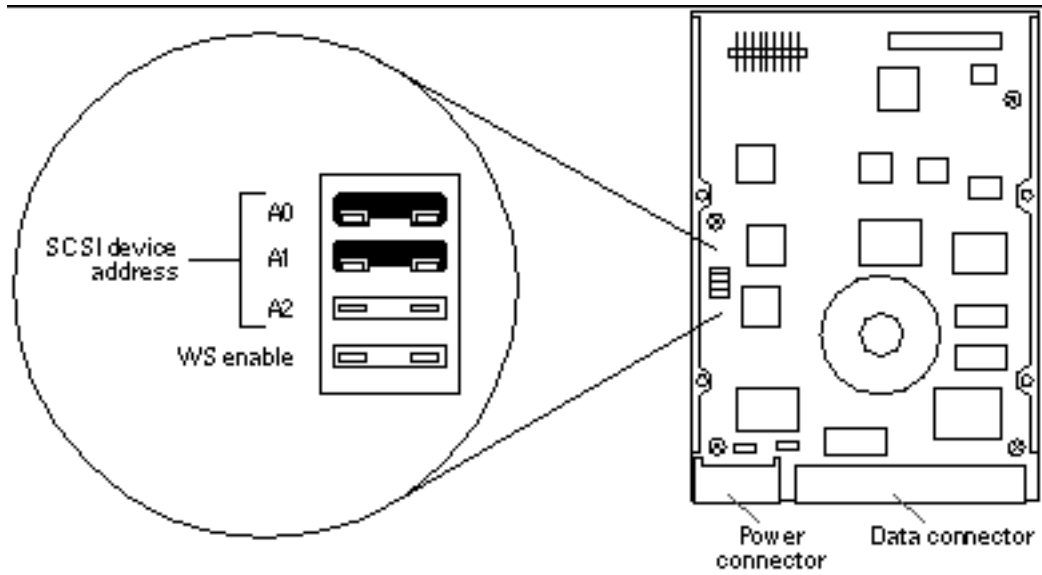
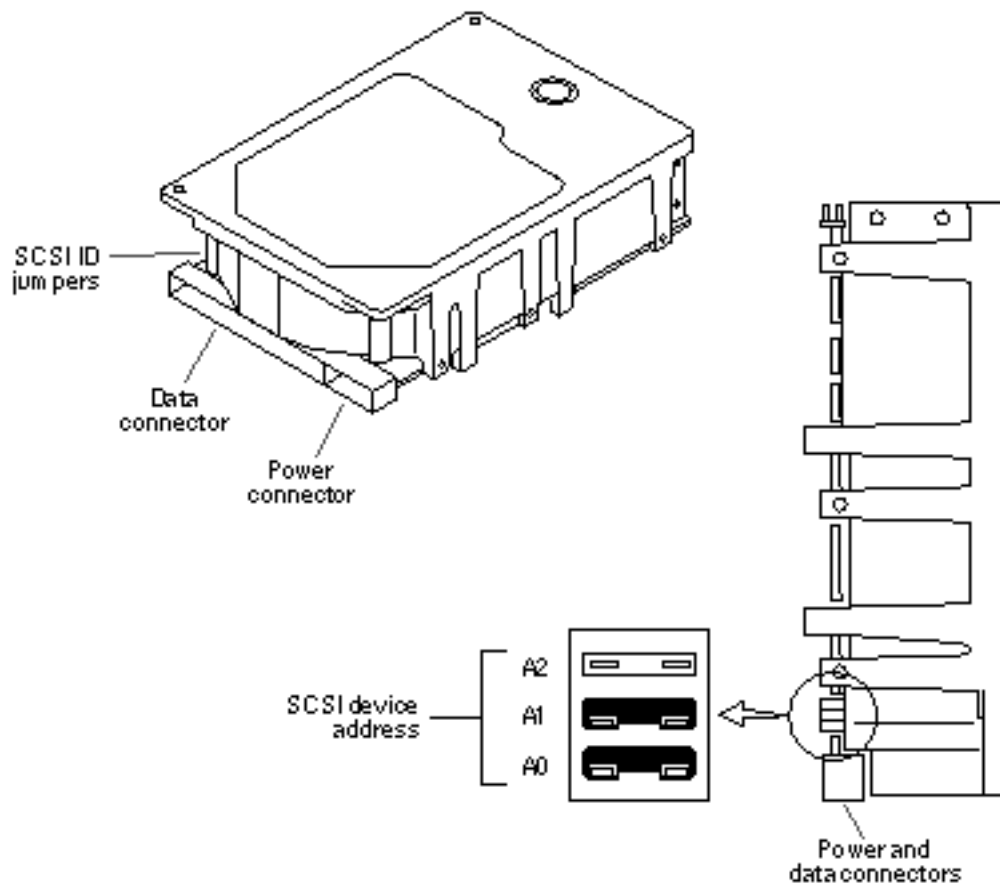

Figure 9-2 Jumper Settings for 207-Mbyte Drive With Jumpers on the Left-Hand Side
Figure 9-7 Jumper Settings for 1.0-Gbyte Drive (Part 370-1546)
The location of the SCSI ID jumpers depends on the type of drive shipped with your system. Figure 9-2 through Figure 9-7 show the jumper locations and settings for the various types of replacement drives. Note that only one of these illustrations applies to your hard drive.
- a. Determine which illustration among Figure 9-2 through Figure 9-7 matches your drive.**